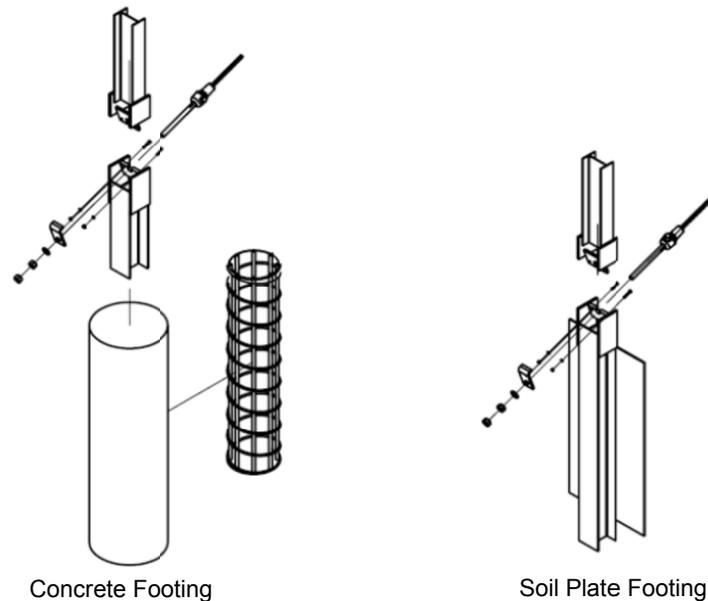

Figure 5 CRP Footing Detail
3. Fabricate the spiral rebar cage (PN-33916B) (See Figure 5). The spiral is made of #3 rebar (10M), 4' 6" long (1.3 m), with a 6" (152 mm) pitch and one turn flat on each end. Eight #6 x 4' 6" (19M x 1.3 m) long rebar are equally spaced and wire tied or tack welded to the inside of the spiral cage. An alternate to the spiral cage is a rebar cage made of #3 rebar rings spaced 6" (152 mm) on center and wire tied or tack welded together with eight #6 x 4' 6" (19M x 1.3m) rebar.
For a soil plate assembly, a 5'0" (1.52 m) bottom post with a 24 x 48 inch (610 x 1219 mm) soil plate can be driven or placed in an augured hole. The soil plate can be either welded or bolted to the bottom CRP (See Figure 5).
- C. Place the CASS™ cable bracket (PN-33909G) on the threaded end. The angle end of the bracket is placed up (See Figure 5).
- A. Cut four (4) lengths of cable from the cable reel. The cable lengths are 60'6" (18.4 m), 54'3" (16.5 m), 48'0" (14.6 m), and 41'9" (12.7 m).
- E. Place the CASS™ cable bracket (PN-33909G) on the threaded end. The angle end of the bracket is placed up. (See Figure 5).